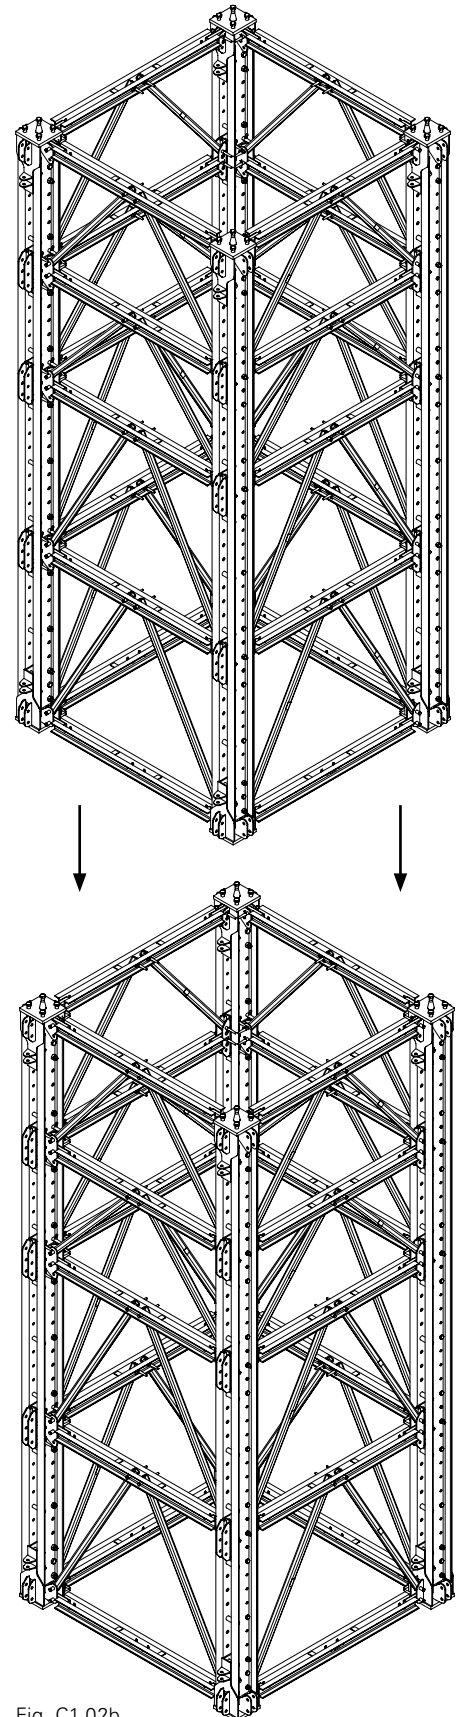

Fig. C1.02b
1. Place tower on existing tower. (Fig. C1.02b)
2. Connect the supporting elements on all legs using four bolts each of the individual Prop Connectors VST 48 (21).